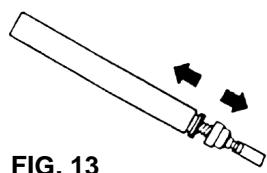

FIG. 13
4. Disassemble the solder collector (fig. 13 & 14).